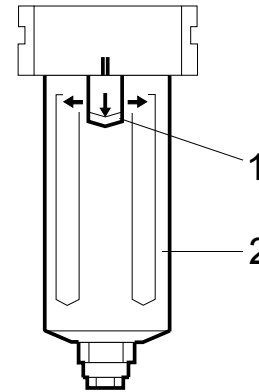

Fig. 11 Removing the main filter housing
- 1 Pull interlock (Fig. 11/1) downwards and hold.
- 2 Rotate housing (Fig. 11/2) until markings (II) are aligned.
- 3 Remove housing (Fig. 11/2).